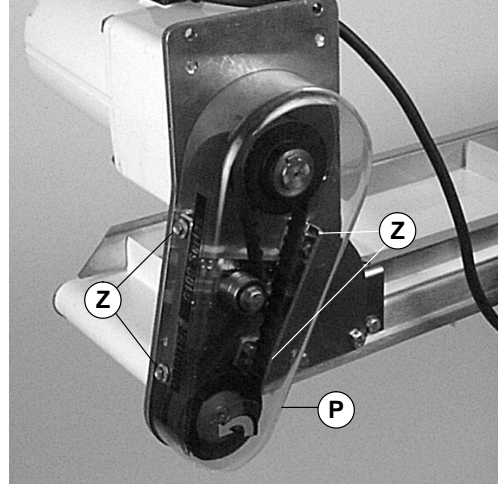

Figure 8
NOTE: Do not over-tighten screws (Z of Figure 8).
- Install cover (P of Figure 8) and tighten four (4) screws (Z) to 35 in-lb (4 Nm).